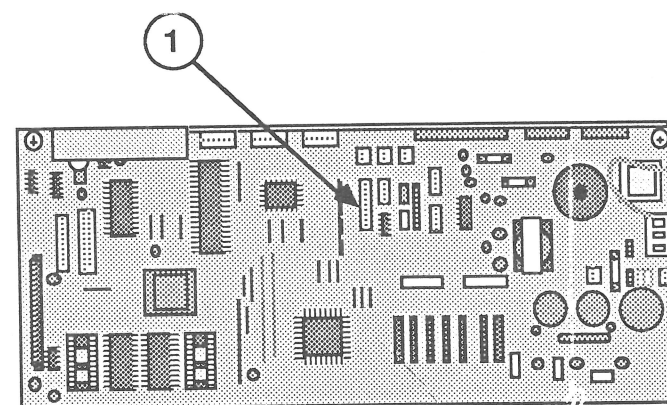

FIGURE 56
8. Connect the ribbon motor and switch cable to connector CN7 on the main board (Figure 56, #1).